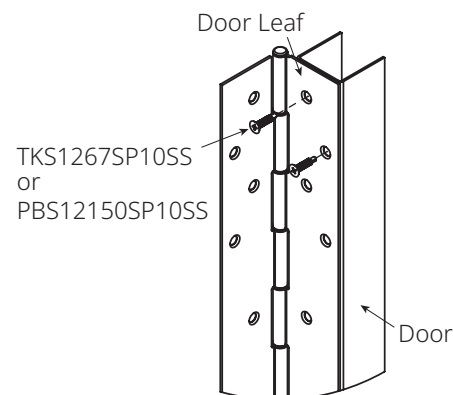

Figure 4
- Attaching hinge to door (Fig. 4):